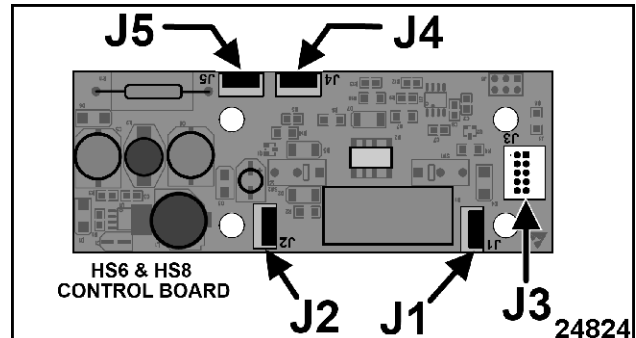

Fig. 118
4. Verify supply voltage of 120VAC at J1 & J4 connections Fig. 118.
9. Verify 120VAC output to knife motor at J2 & J5 Fig. 118.